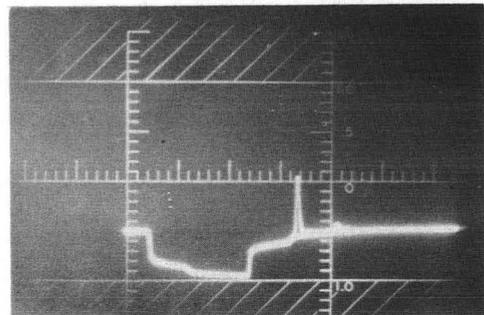

Fig. 10 - Effects of Excessive Unequalized and Improperly Terminated Cable
7.30 The effects of excessive unequalized and improperly terminated cable are shown in Fig. 10.